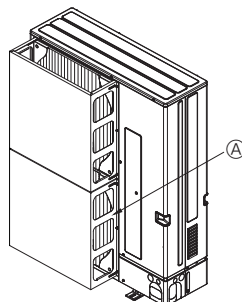

Fig. 3-4
- Install an optional air guide if the unit is installed in a location where strong winds from a typhoon, etc. may directly enter the air outlet. (Fig. 3-4)